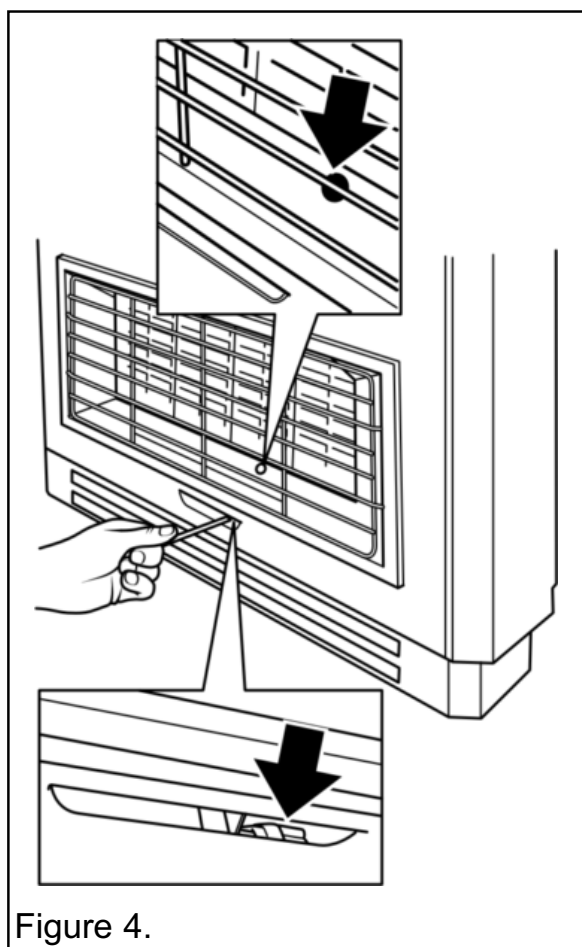

Figure 4.
– Depress the control knob and slowly turn anticlockwise towards the 1/IGN position. A spark should be generated at the pilot while turning. The spark should ignite the pilot. **If it does not**, keeping the knob depressed, continue to turn the knob anticlockwise. A **second** spark should ignite the pilot. The pilot flame can be seen through the opening immediately below the right hand centre radiant (See upper section of figure 4).
– Depress the control knob slightly and turn anticlockwise towards the 1/IGN position. Do not apply too much pressure as this will cause resistance to be felt. Depress the control knob. Sparks should be generated at the pilot. The sparks should ignite the pilot. If the pilot does not light, turn the control knob back to the 'OFF' position and try again. The pilot flame can be seen through the opening immediately below the right hand centre radiant (See upper section of figure 4).
While keeping the knob depressed, light the pilot by inserting a long match or taper into the opening shown in figure 4 (Second opening from the right).